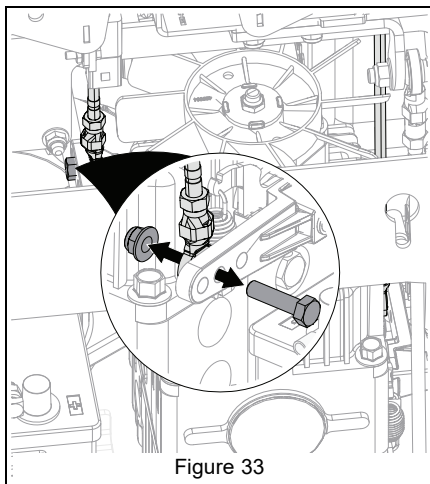

Figure 33
2. Remove and retain hardware securing control linkages on either side of the pump. See Figure 33.